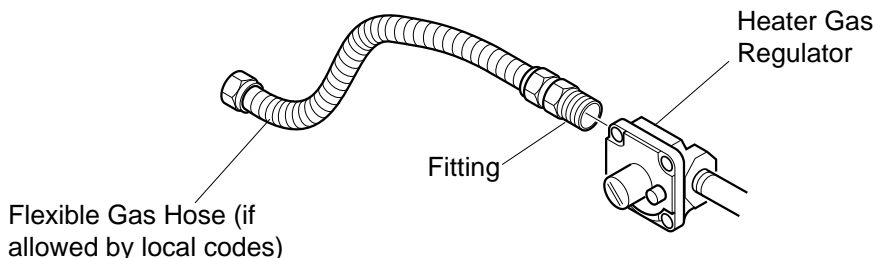

Figure 11 - Attaching Flexible Gas Hose to Heater Gas Regulator
1. Apply pipe joint sealant lightly to male threads of the fitting to be threaded into gas regulator. Connect approved flexible gas hose to gas regulator of heater (see Figure 11).